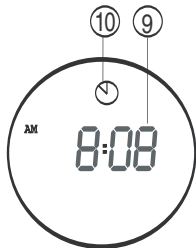

Fig 3
3. In the Clock mode, refer to figure 3.